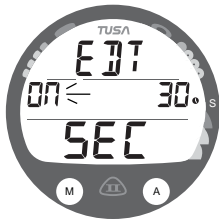

Fig. 89 - SET EDT ALARM
**Set Free EDT Alarm**, information includes (Fig. 89) -